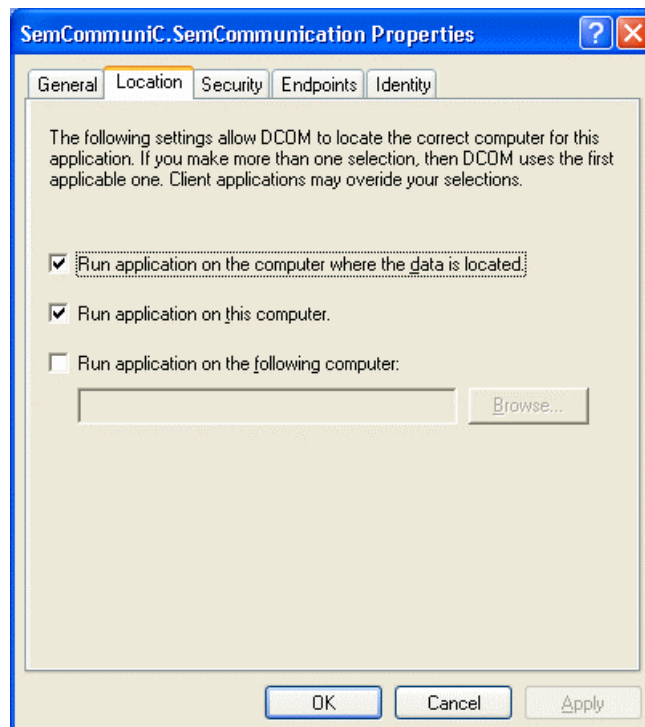

Fig. 6.3-34 Properties Window
28. Under **Location** Tab, confirm the setting as shown below (**Fig. 6.3-34**).